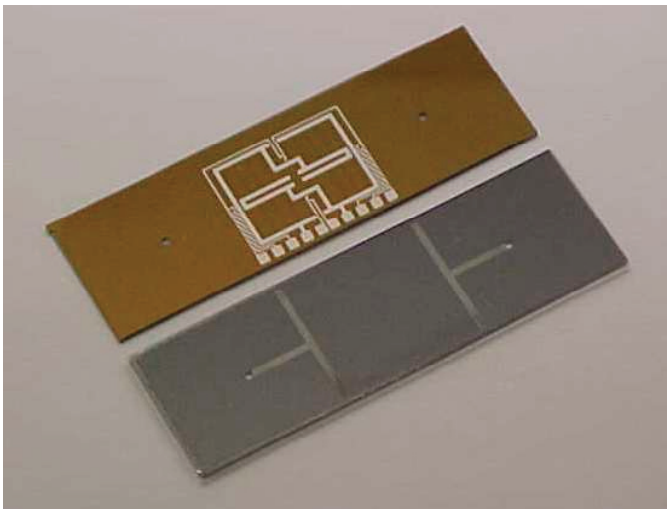

Figure 9. Microchannel Coldplate Made from the Silicon [1].
The placement of the coldplate at the device level is significantly more challenging than at the component and PCB levels. Efforts have focused on fabricating the coldplate from the silicon itself. This would allow the dispersion of heat on a larger surface and its direct removal from the die. Figure 9 shows the work by Wang, et. al., [2] for the following two configurations:
- Each chip has 30-50 microchannels in parallel, as shown Figure 9.